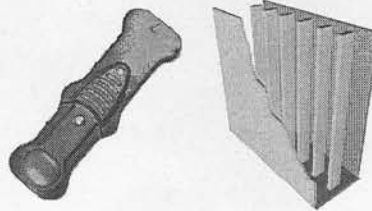

Figure 1
**1a. Locate wall studs:** Locate a proper place to mount by using the included stud finder (Figure 1) It is recommended that the center of the stud be used – and that a nail be used to verify that a stud has been located. The mount requires a minimum of two studs to ensure proper and safe installation. The tilt arms will adjust horizontally to the right and left up to 8 inches, depending on the size of your LCD or plasma, after you determine the desired viewing location.